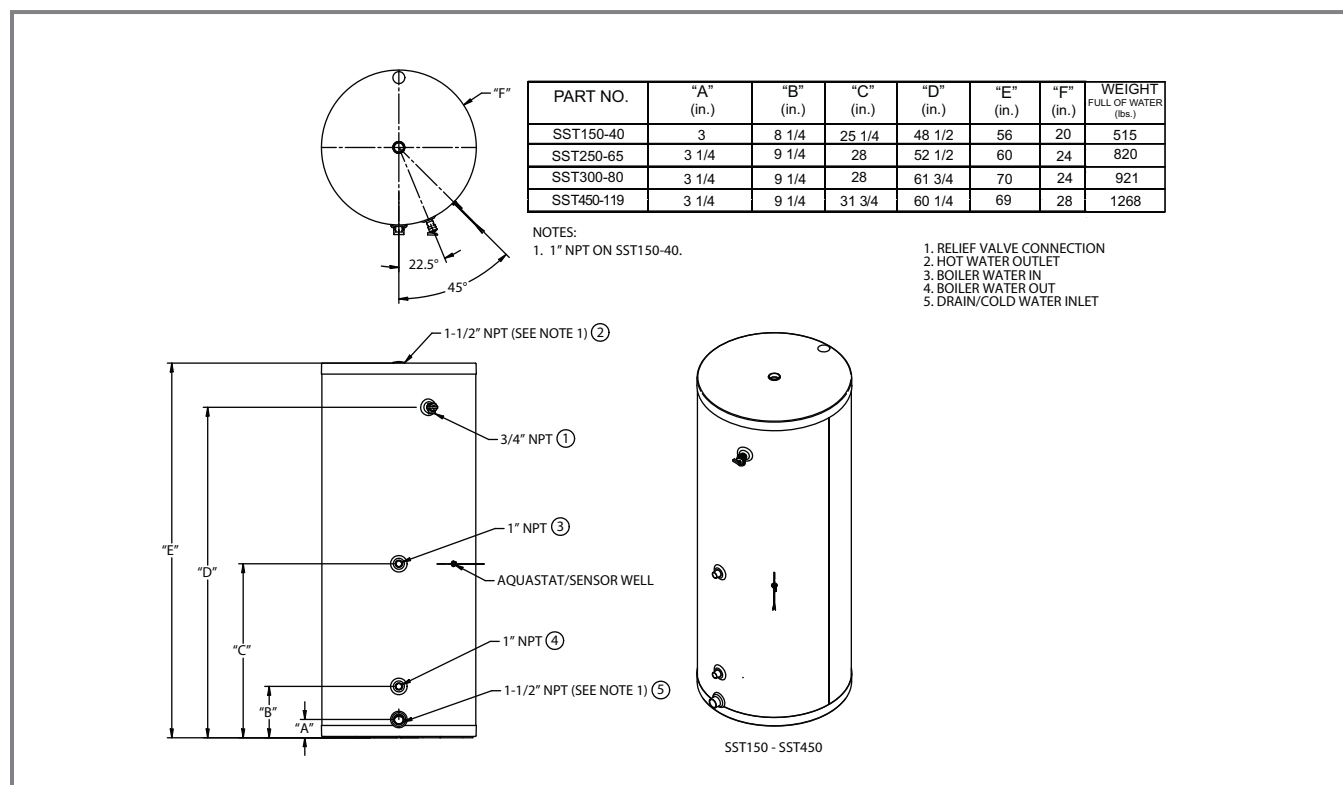

Figure 1-1
The SST series indirect water heater (FIG. 1-1) is designed to generate domestic hot water in conjunction with a hot water boiler using forced boiler water circulation. This indirect water heater consists of a 316L Stainless Steel tank in which a smooth 304L stainless steel coil is located (Table 1A). Boiler water is pumped through the coil and heats the water in the tank. This tank is not intended for use in pool heating applications or for heating any fluid other than water. It is also not intended for use in gravity hot water heating systems.
3. Figure 1-1 on page 6 shows the weights of all the tanks filled with water. Make sure that the location chosen for the tank is capable of supporting it.